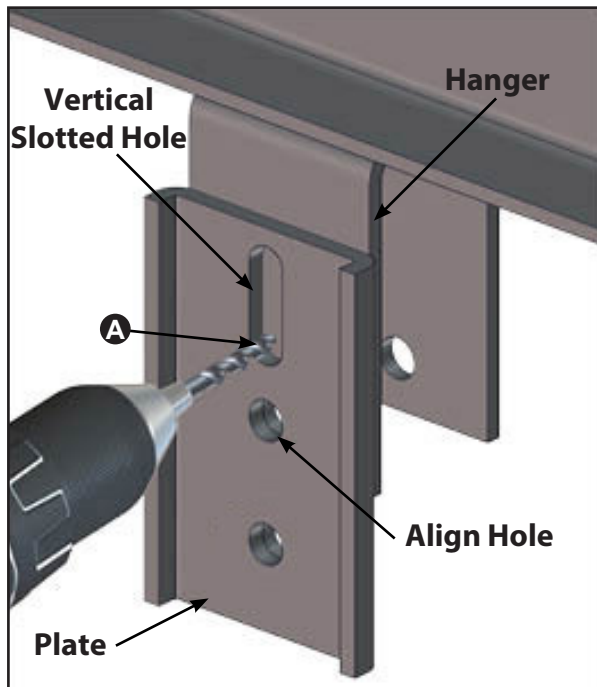

Fig.2
4. Place the hanger plate on the outside of the hanger. Align the center hole of the plate with the bottom hole of the hanger (Fig. 2).